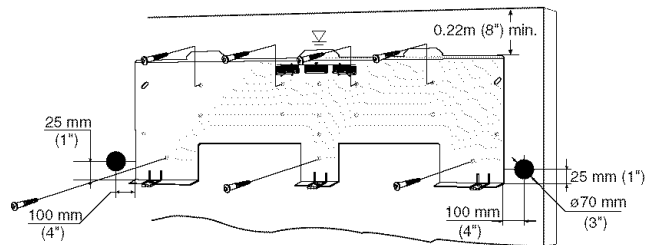

Fig. 4 — Mounting Bracket
3. Mark the seven drilling holes on the wall, as they appear in Fig. 4.
1. Mark the center of the hole to be drilled according to the refrigerant line routing used and dimensions shown in Fig. 4.